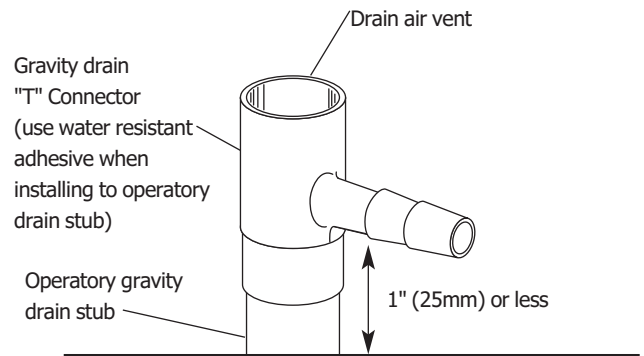

Figure 19
1. Attach the gravity drain "T" connector to the gravity drain stub using a water resistant adhesive (see Figure 19). The drain air vent must not be obstructed because it prevents air from being trapped in the drain system and inhibiting flow.